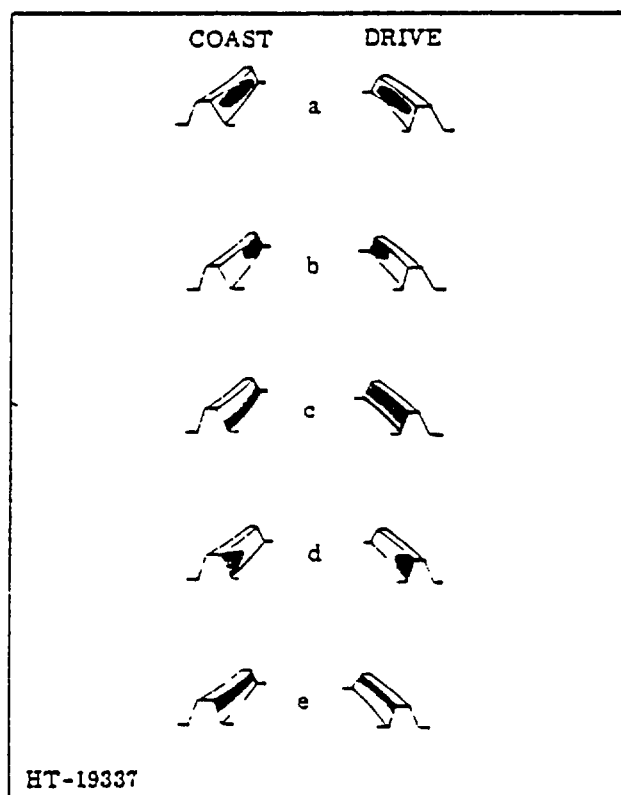

Figure 17. Differential Tooth Pattern
5. With the drive pinion properly installed and adjusted, rotate the pinion and hold back on the ring gear to create the effect of a load. After several rotations of the drive pinion, inspect the teeth of the pinion where the paint has been removed by gear contact. Compare the tooth bearing (area where paint was removed) with Figure 17. The tooth bearing should start at a point about 1/32" to 1/16" from the top of the tooth and continue downward to a point about 1/32" to 1/16" from the bottom of the tooth.
Explanation of Figure 17: